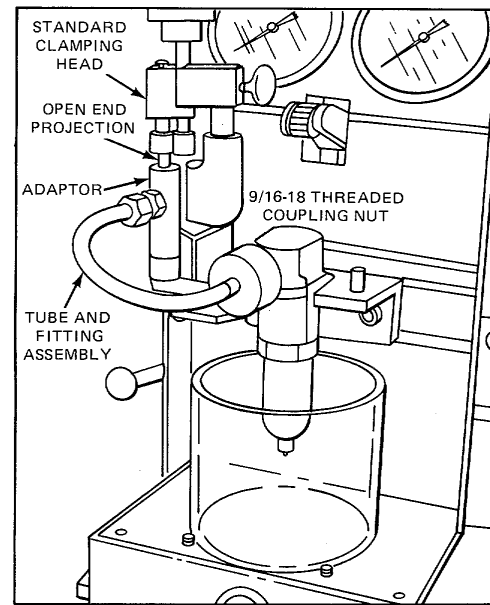

Figure 15. Adaptor and Tube Assembly on Injector Tester J23010
4. Mount the adaptor and assembled injector parts in the support bracket (adaptor plate not needed). Refer to Fig. 15.
2. Swing the clamping head over the adaptor and clamp it with the oil supply outlet aligned over the open projecting end of the adaptor (Fig. 15).